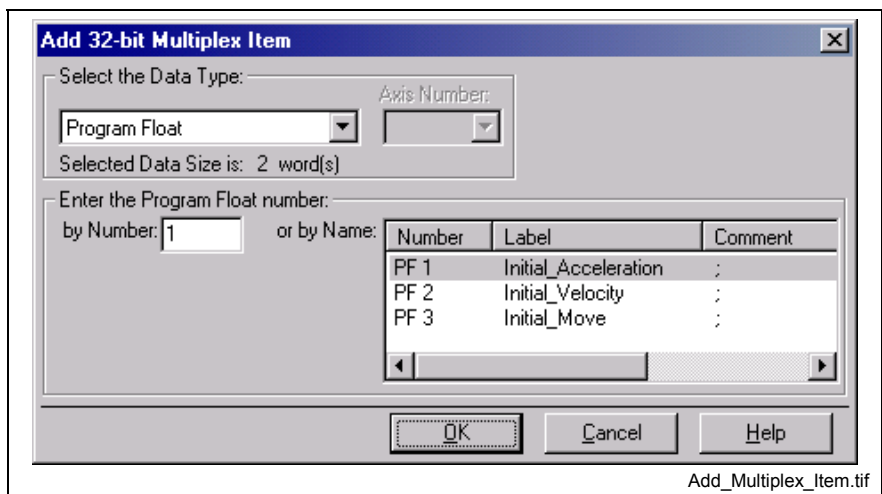

Fig. 7-141: Adding a Multiplex Item to the Container (32-bit example)
- To add to the selected multiplex container, click **No**. The window in Fig. 7-141 below is an example for adding a 32-bit multiplex item.